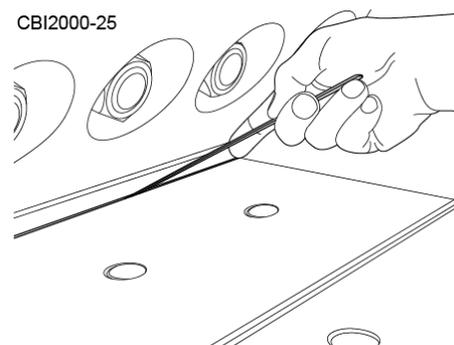

Figure 6.16 - Check clearances
5. Check for Maximum Anvil Clearance - Insert a 3 mm feeler gauge in between the anvil and the knife tip. Hold the gauge parallel to the rotor and run it across the full length of the knife (Figure 6.16). If the gauge fits between the knife and the anvil at any point then the anvil clearance is too loose and it must be adjusted.
6. Check Clearances on all Knives - Rotate the rotor so that the tip of the next knife being checked is aligned (Figure 6.16). Repeat steps 4 through 6 until the anvil clearance has been checked for all knife sections.